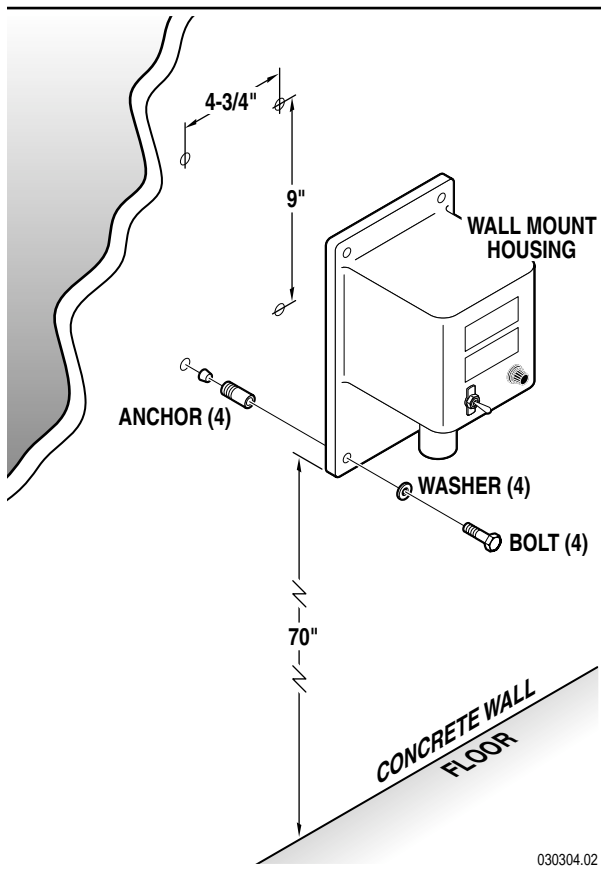

Figure 4. Model ST9W Mounting
1. Attach wall mount housing to concrete wall using 4 bolts, washers, and anchors as shown in figure 4. Locate housing 70" from the floor and within 4 feet of a duplex outlet for 120 VAC, 60 Hz power supply. Mark and drill 4 holes in wall, insert anchors and seat them in place. Install 4 bolts and washers and secure housing to anchors.